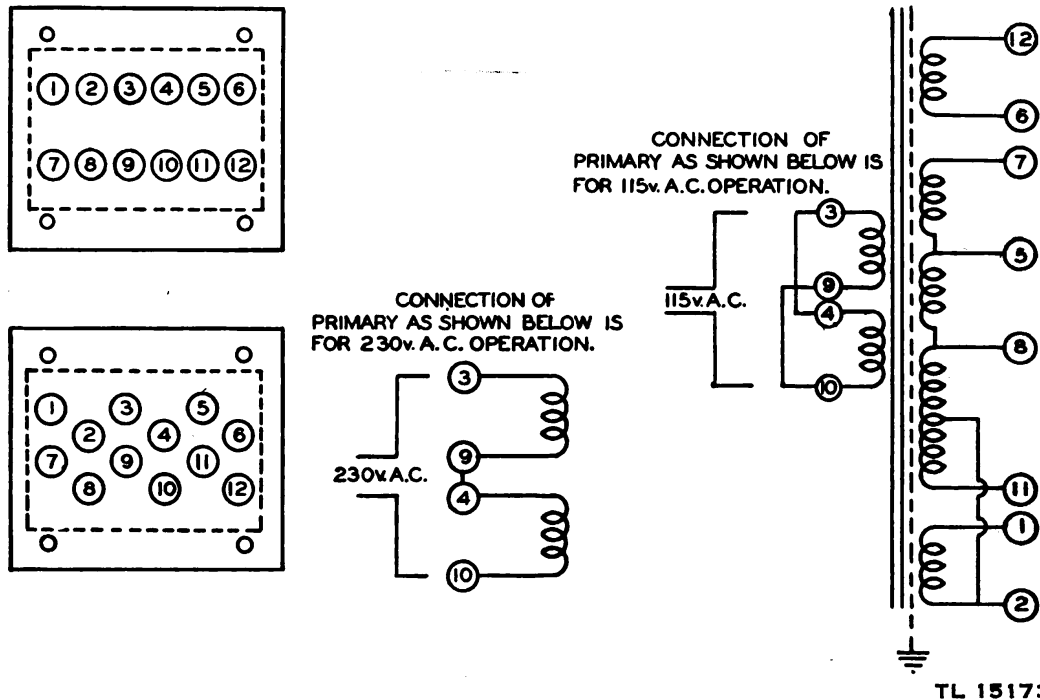

Figure 25. Power transformer connections for BC-1031-B and BC-1032-B.
d. Operation of Panoramic Adaptor BC-1031-B or BC-1032-B at 230-volt AC Instead of 115-volt AC. The primary connections of the power transformer must be changed (fig. 25).